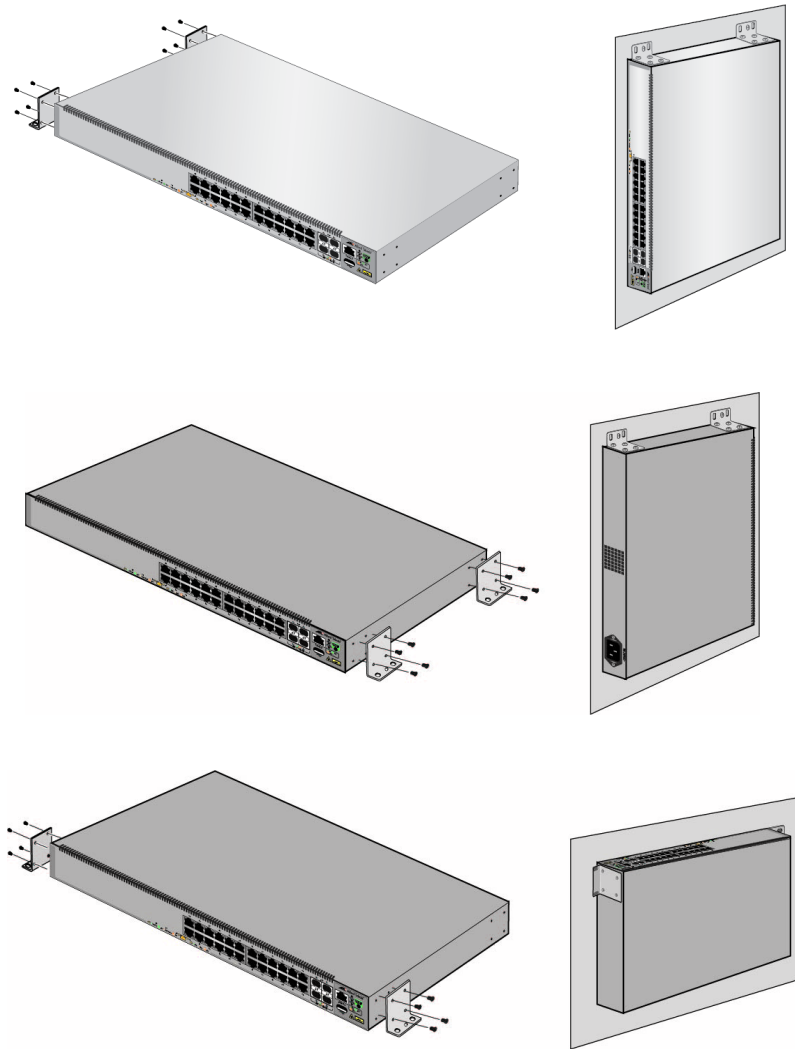

Figure 70. Attaching Wall Brackets to x530L-28GTX, x530L-28GPX, x530L-52GTX, and x530L-52GPX Switches
4. For the x530L-28GTX, x530L-28GPX, x530L-52GTX, and x530L-52GPX Switches, attach the two wall/equipment rack brackets with eight screws to the sides of the switch. Refer to Figure 70 on page 129.